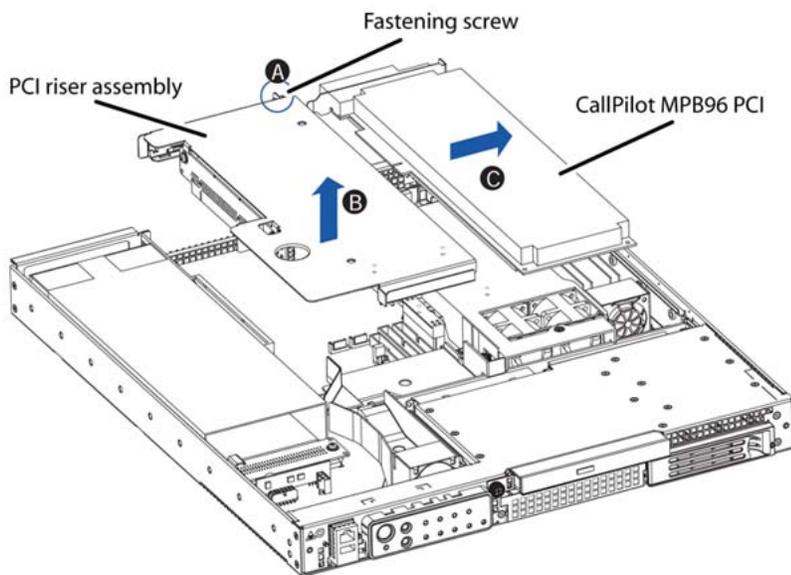

Figure 21: Removing riser from chassis
4. Loosen the captive screw that holds the PCI riser card assembly to the rear of the platform. For more details, see A in Figure 21: Removing riser from chassis on page 84.
5. Pull up on the riser to remove the riser card assembly from the chassis. For more details, see B in Figure 21: Removing riser from chassis on page 84.
7. Firmly press the riser card straight down over the MPB96 slot until the card is seated in the server board slot. For details, see B, Figure 21: Removing riser from chassis on page 84.
8. Tighten the captive screw that holds the riser assembly to the chassis. For details, see A, Figure 21: Removing riser from chassis on page 84.